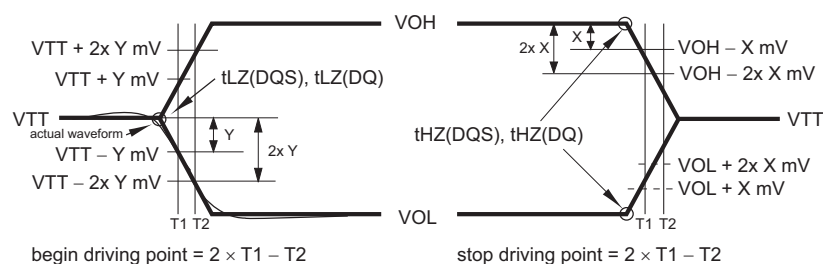

Figure 1: tLZ and tHZ Method for Calculating Transition and Endpoints
11. For low-to-high and high-to-low transitions the timing reference will be at the point when the signal crosses VTT. tHZ and tLZ transitions occur in the same access time (with respect to clock) as valid data transitions. These parameters are not referenced to a specific voltage level but to the time when the device output is no longer driving (for tRPST, tHZ(DQS) and tHZ(DQ)), or begins driving (for tRPRE, tLZ(DQS), tLZ(DQ)). Figure 1 shows a method to calculate the point when device is no longer driving tHZ(DQS) and tHZ(DQ), or begins driving tLZ(DQS), tLZ(DQ) by measuring the signal at two different voltages. The actual voltage measurement points are not critical as long as the calculation is consistent.